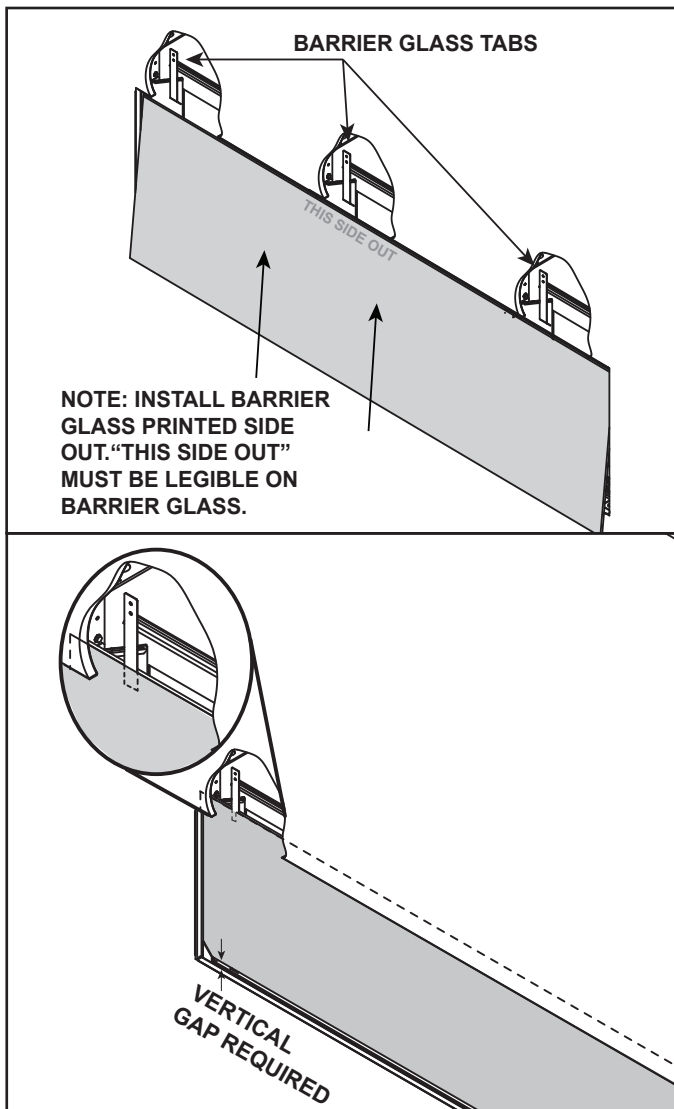

Figure 11.3 Replace Barrier Glass - Clean Face Finish
2. Tilt glass and slide glass between finishing material and barrier glass tabs. See Figure 11.3.
NOTE: Barrier glass must be installed between the finishing material and the barrier glass tabs. If not installed correctly, appliance will not operate as intended. See Figure 11.3.